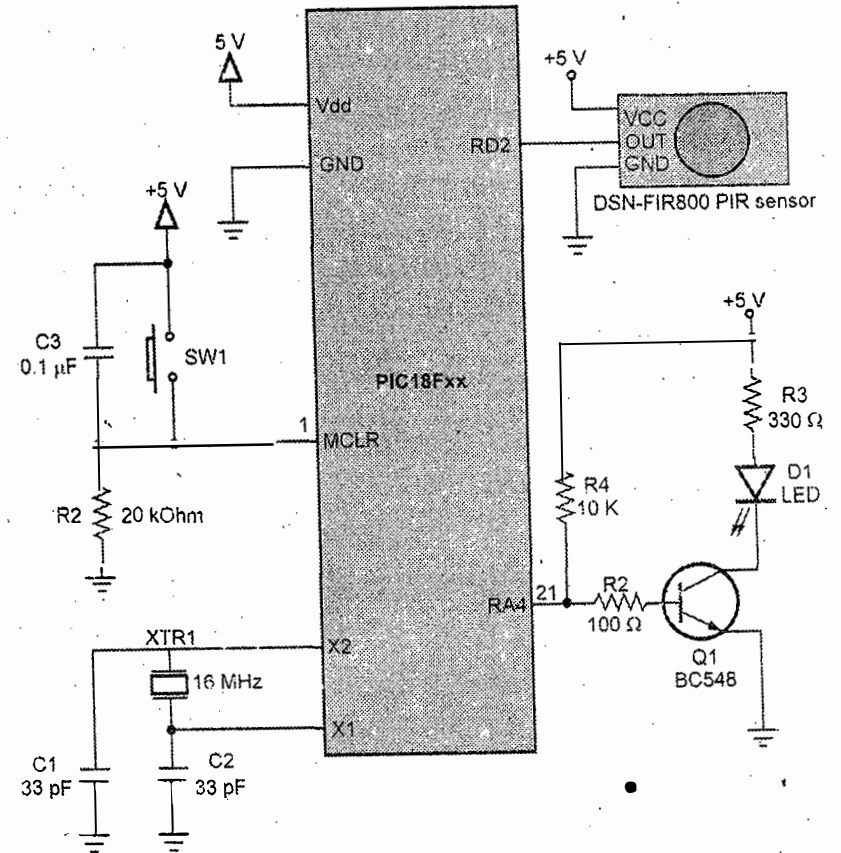

Fig. Q.10.1 Interfacing of ultrasonic motion detector
- The circuit diagram for interfacing PIR sensor to PIC 18F4550 microcontroller is shown in Fig. Q.10.1.
- The circuit shown in Fig. Q.10.1 will read the status of the output of the PIR sensor and switch ON the LED when there is a motion